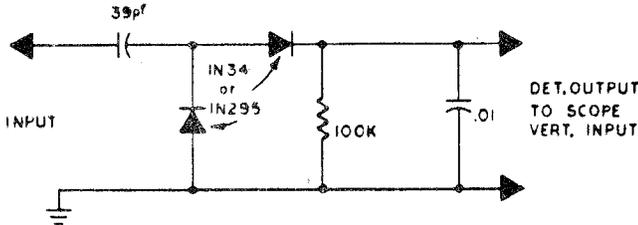

Figure 4-4. High-Impedance Detector
- a) Connect detector input (Figure 4-4) to pin 5 of IF amp. IC103; connect detector output to scope vertical input. Set scope vert. sensitivity to give a usable pattern with minimum sweep-generator input.